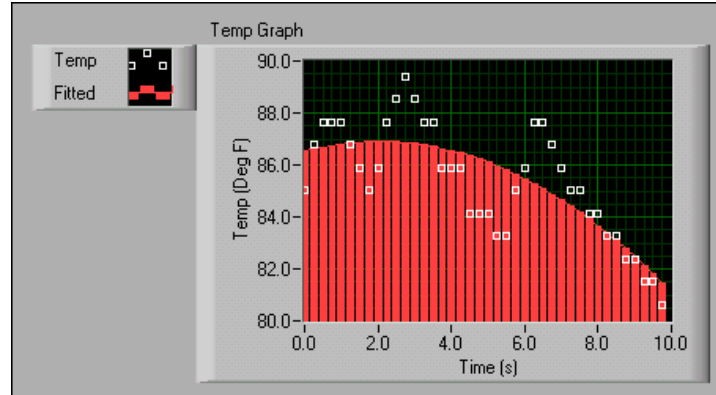

Figure 5.24
- b. Right-click the Fitted plot display in the plot legend, select Bar Plots from the shortcut menu, and select the second option in the middle row. The waveform graph should appear similar to the front panel in Figure 5.24.